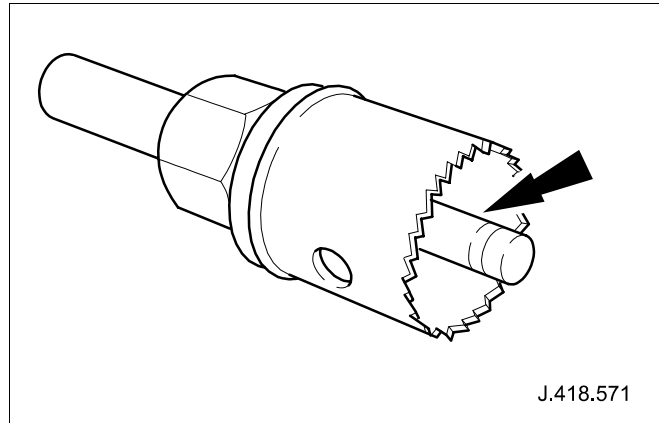

Fig. 10
- 27 Assemble hole saw, using a rod of the same diameter as removed drill to protrude 10mm from the saw face. (See Fig. 10)